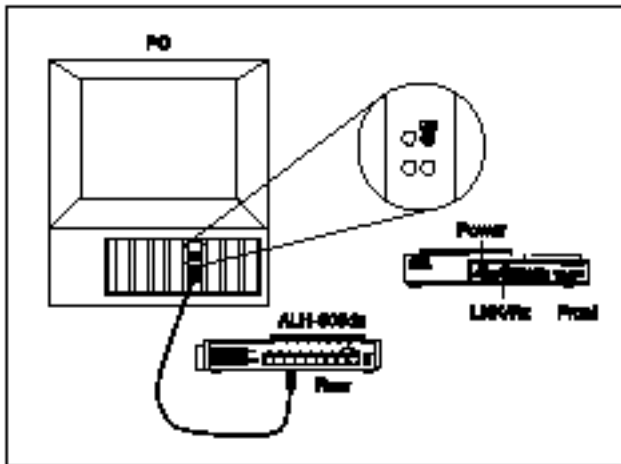

Figure 2-12 Check the Link LEDs both on hub and adapter card
2.3.4 After connecting to the hub, please check if the Link LEDs on the adapter card and the hub(named as LNK/Rx) are lit up, as shown in *Figure 2-12*. If the LED is not lit up, there must be something wrong and please reference to chapter 4 for quick trouble shooting.